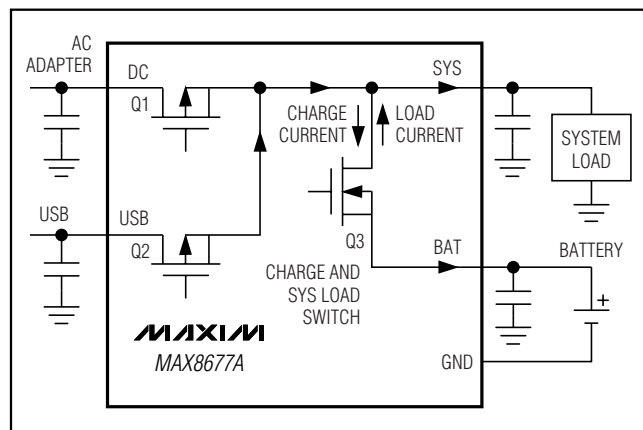

Figure 4. Smart Power Selector Block Diagram
The MAX8677A Smart Power Selector seamlessly distributes power between the external inputs, the battery, and the system load (Figure 4). The basic functions performed are:
An internal 40mΩ MOSFET connects SYS to BAT (Q3, Figure 4) when no voltage source is available at DC or USB. When an external source is detected at DC or USB, this switch is opened and SYS is powered from the valid input source through the input limiter.
The input voltage limiter is essentially an LDO regulator designed to run in dropout. While in dropout, the regulator dissipates a small  $I^2R$  loss through the  $0.2\Omega$  MOSFET (Q1, Figure 4) between DC and SYS. With an AC adapter or USB source connected, the input limiter distributes power from the external power source to the system load and battery charger. In addition to the input limiter's primary function of passing power to the system and charger loads at SYS, it performs several additional functions to optimize use of available power:
- **Input Voltage Limiting.** If an input voltage is above the overvoltage threshold (6.9V typ), the MAX8677A enters overvoltage lockout (OVLO). OVLO protects the MAX8677A and downstream circuitry from high-voltage stress up to 14V at DC and 8V at USB. In OVLO, VL remains on, the input switch that sees overvoltage (Q1, Q3, Figure 4) opens, and the appropriate power-monitor output ( $\overline{DOK}$ ,  $\overline{UOK}$ ) is high impedance, and  $\overline{CHG}$  is high impedance.
If both DC and USB see overvoltage, both input switches (Q1 and Q2, Figure 4) open and the charger turns off. The BAT-SYS switch (Q3, Figure 4) closes, allowing the battery to power SYS.
An input is also invalid if it is less than BAT, or less than the DC undervoltage threshold of 3.5V (falling). With an invalid input voltage, SYS connects to BAT through a  $40m\Omega$  switch (Q3, Figure 4).
- **Adaptive Battery Charging.** While the system is powered from DC, the charger draws power from SYS to charge the battery. If the charger load plus system load exceeds the input current limit, an adaptive charger control loop reduces charge current to prevent the SYS voltage from collapsing. Maintaining a higher SYS voltage improves efficiency and reduces power dissipation in the input limiter. The total current through the switch (Q1 or Q2 in Figure 4) is the sum of the load current at SYS and the battery charging current. The limiter clamps at 5.3V, so input voltages greater than 5.3V can increase power dissipation in the limiter. The limiter power loss is  $(V_{\text{DC}} - 5.3) \times I$ , but not less than  $I^2 \times 0.2\Omega$ . Also note that the MAX8677A turns off any input that exceeds 6.9V (nominal).